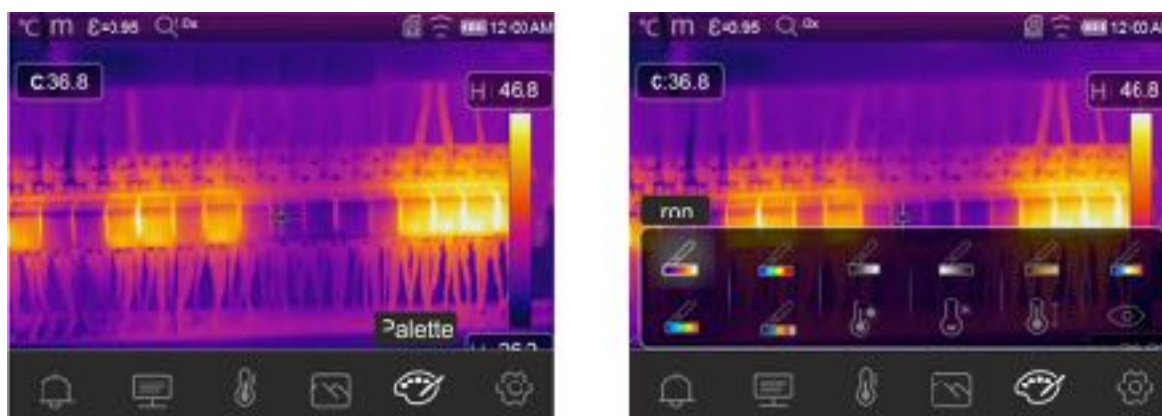

Fig. 36: Selection of color palettes and isotherm lines' functions
2. Touch the icon “” to enter the “Palette” menu. The screen in Fig. 36 – right side appears on the display.